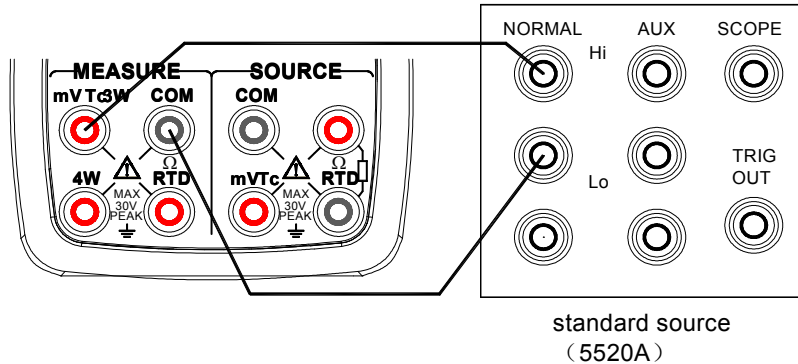

Figure 12 Calibrating DC voltage
- Step 3:** Connect the lead cables to the output terminals of the standard source as shown in Figure 12.